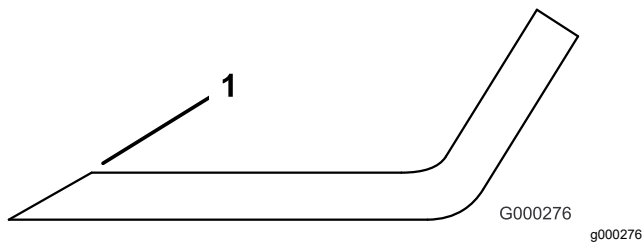

Figure 23
1. Sharpen the cutting edge at both ends of the blade (Figure 23). Maintain the original angle. The blade retains its balance if the same amount of material is removed from both cutting edges.